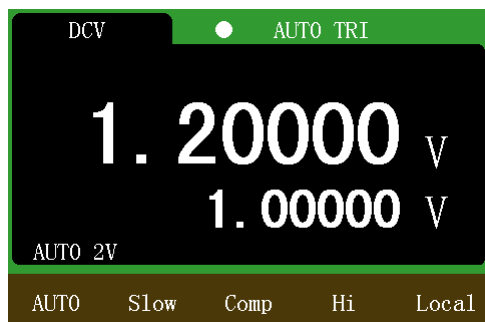
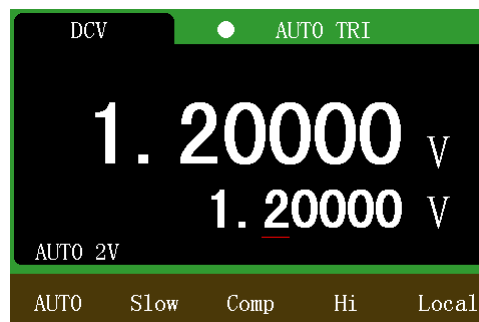

Figure 5-11 Upper limit comparison interface
Figure 5-12 Upper limit setting interface
1. Press  +  key combination to select the COMP HI function, as shown in Figure 5-11. Press the key combination again to exit the COMP HI function.
3. In the upper limit comparison interface shown in Figure 5-11, press the Enter key to call up the upper limit setting interface. The up / down / left / right arrow key can be used to modify the upper limit, as shown in Figure 5-12.